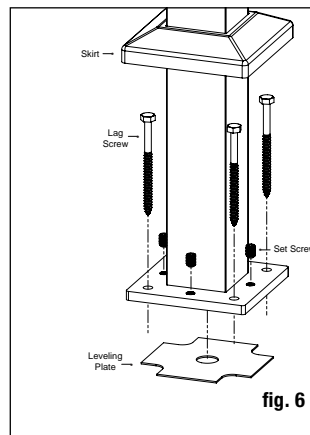

fig. 6
Step 5 Reposition the post assembly with the leveling plate inserted between the deck and the post base, and aligned with the predrilled holes. Insert the post fasteners (**NOT INCLUDED**), and partially tighten. Using a level, adjust the leveling set screws with a 3/16" allen wrench until the post is plumb. Fully tighten the post fasteners to secure the base to the deck structure. *Note: Recommended 5/16" x 4" or longer lag screws.* (fig. 6)